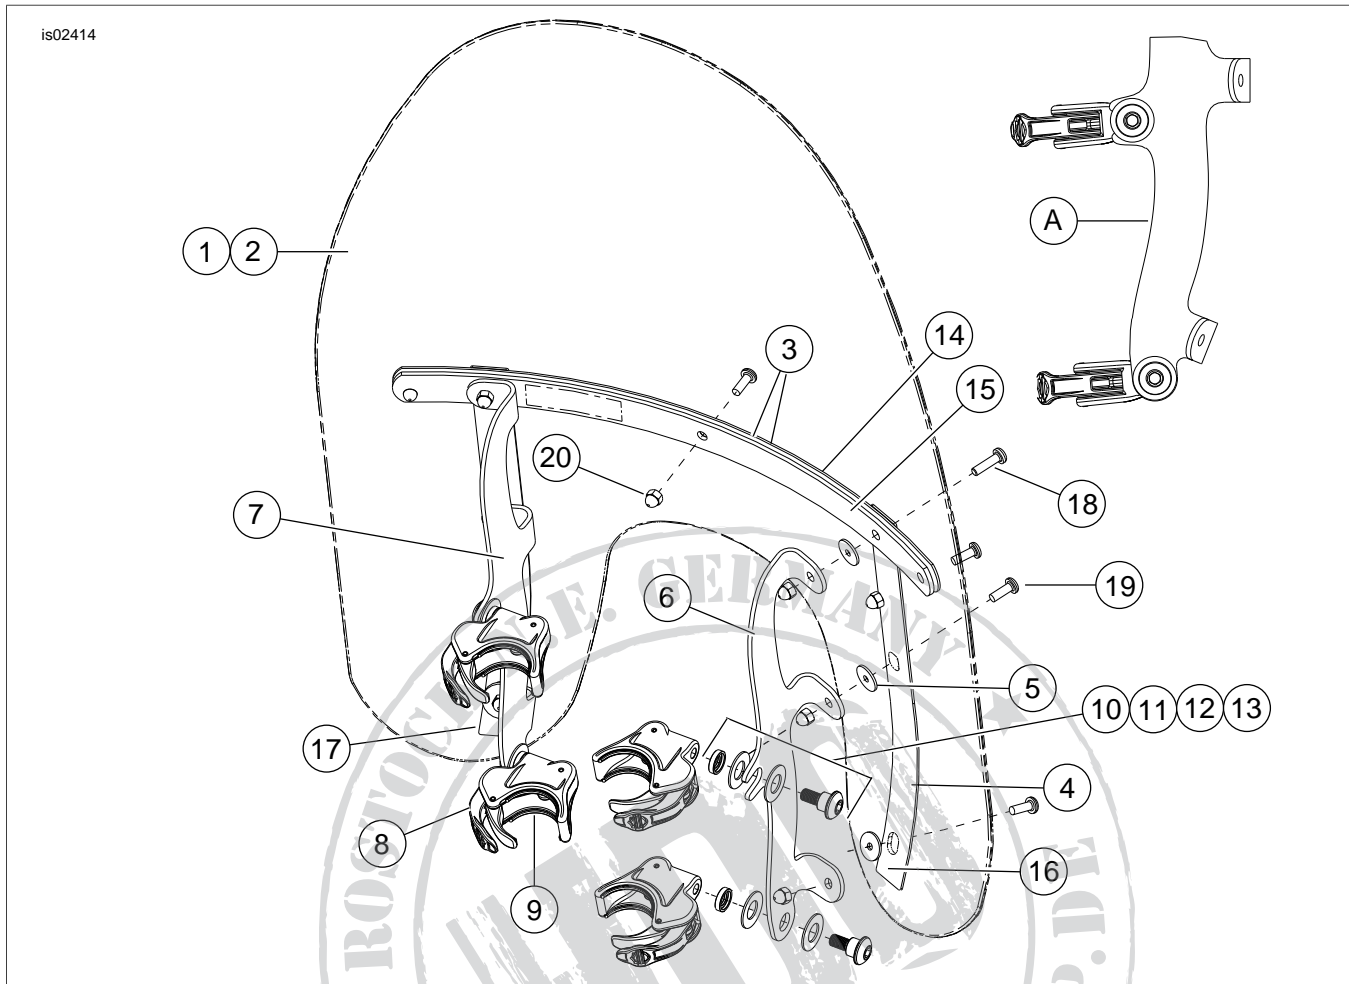
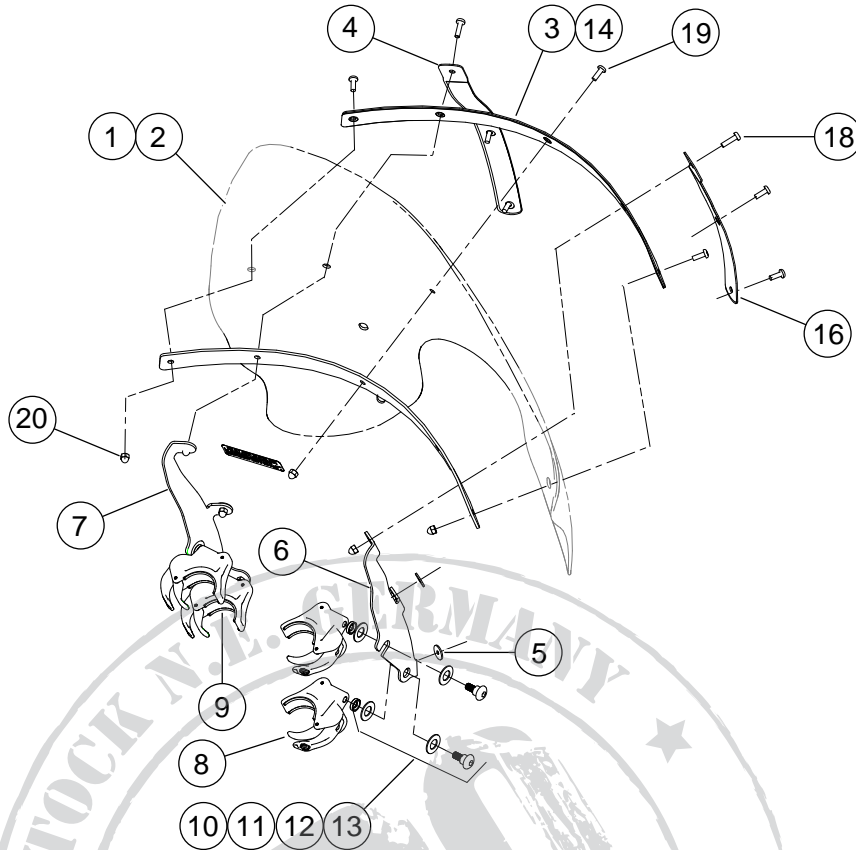

Figure 3. Service Parts: Compact Quick Release Windshield Kits
Figure 4. Service Parts: Touring Quick Release Windshield Kits
See Figure 3 and Table 2, Figure 4 and Table 3, Figure 5 and Table 4, Figure 6 and Table 5.
2. See Figure 3, Figure 4, and Figure 5. Remove both the clamp and hardware kits from the packaging, and separate similar parts in preparation for assembly.